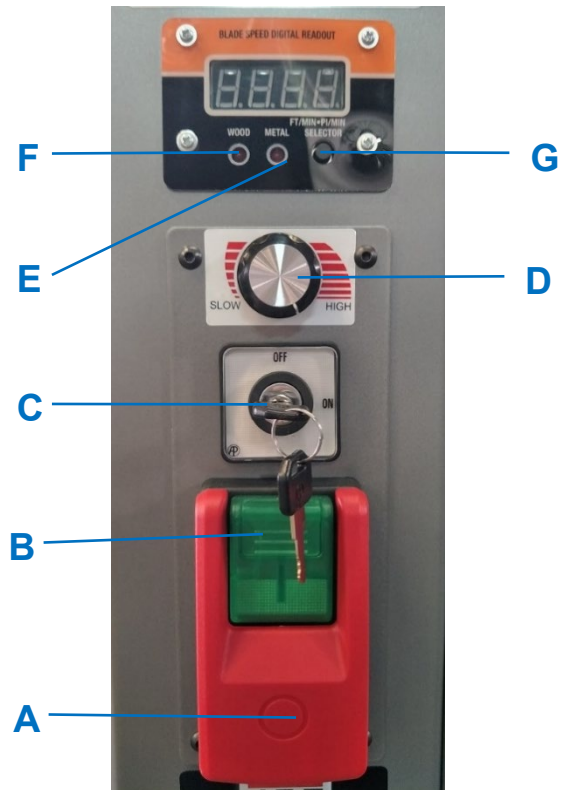

Figure 8-1 – Operating Controls
Refer to Figure 8-1.
1. Press the “Selection” button (G, Figure 8-1). The corresponding mode “ Wood” LED (F, Figure 8-1) will light up when selected.
1. Press the “Selection” button (G, Figure 8-1). The corresponding mode “ Metal” LED (E, Figure 8-1) will light up when selected.
The variable speed control dial (D, Figure 8-1) will adjust the blade speed during operation. Turn the dial clockwise to increase blade speed and counterclockwise to decrease blade speed. Wood cutting speed range: 540-3600 SFPM (Sawing feet per minute)